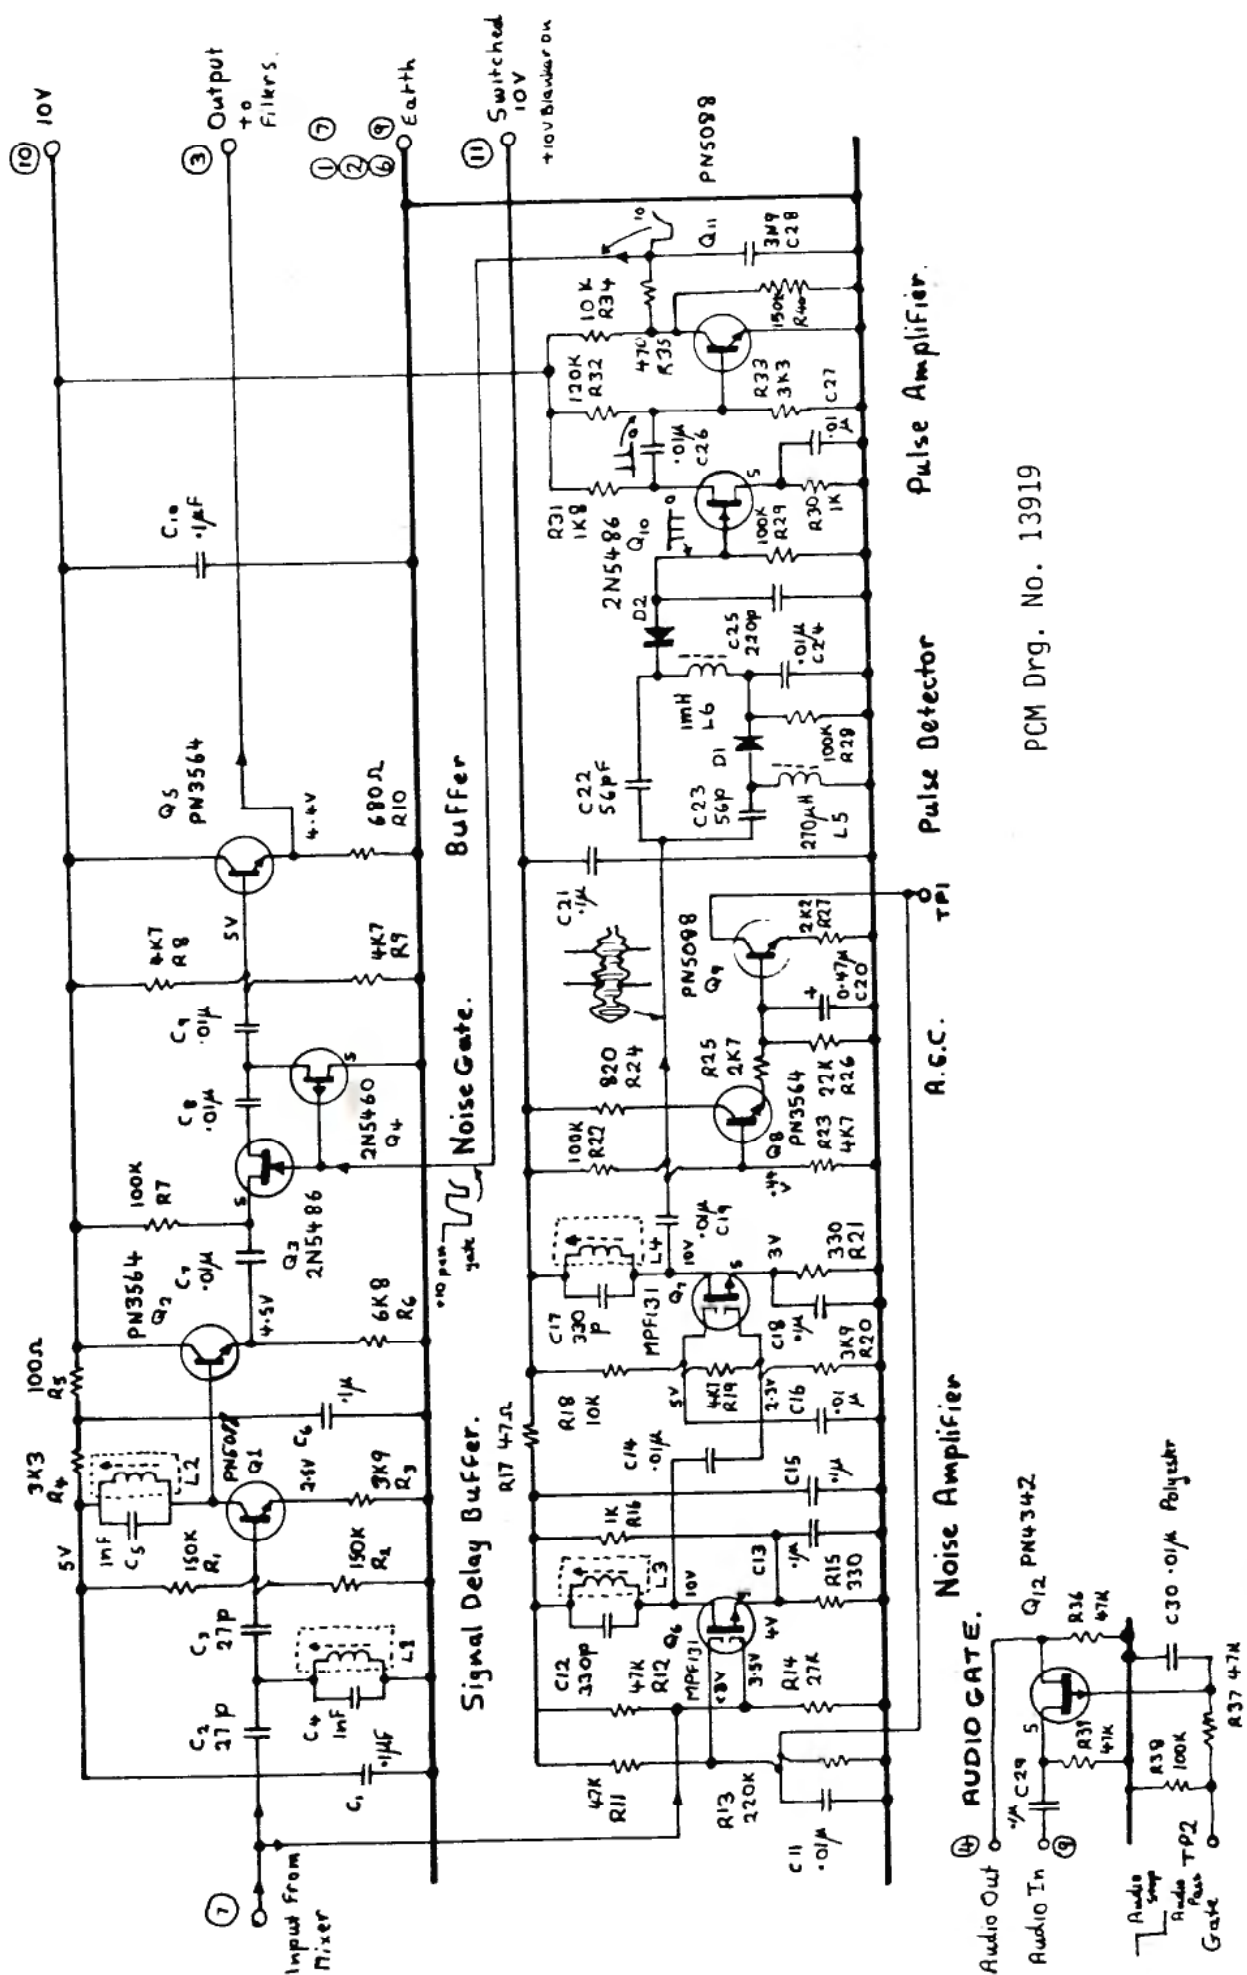

FIGURE 7.2 NOISE BLANKER CIRCUIT DIAGRAM
7.2 DETAILED DESCRIPTION - See Figure 7.2